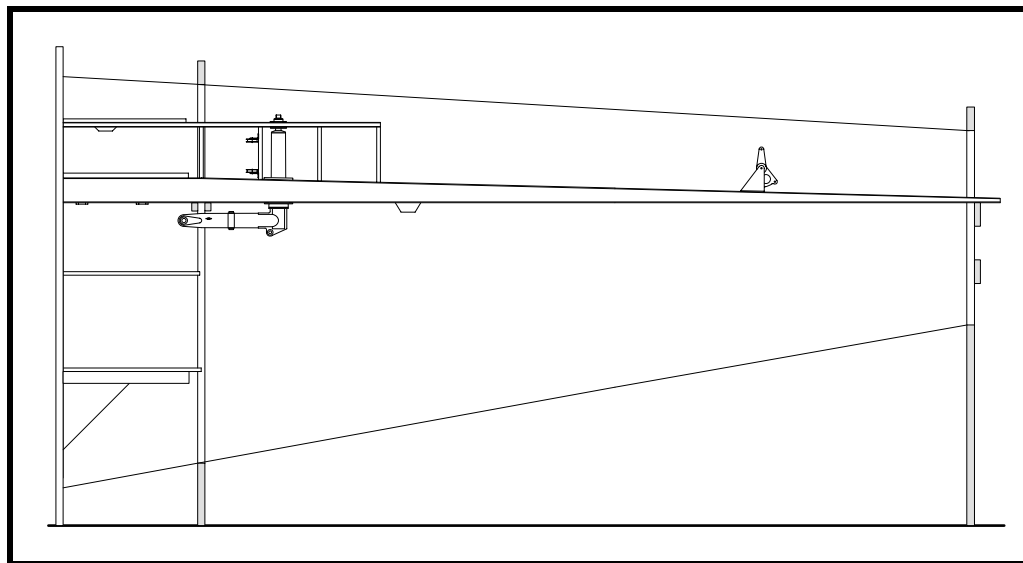

Figure 6
- ❑ Clamp the intermediate leading edge ribs (those ribs between the main wing spar and the front wing spar) for wing Sta. 1, 2, 3 and 4 to the main wing spar as shown in Figure 6. Do not sand the ends of the ribs at this time. Use a straightedge against the chord line drawn on the rib at Sta. 4 to check the alignment of this rib. The chord line on the rib should match the chord line drawn on the forward face of the spar and should be aligned with the leading edge alignment string.
In Figure 6 and all subsequent illustrations in this chapter, the supports of the centerboard are not shown for frames No. 3, 4 and 5 so that you can see the details.